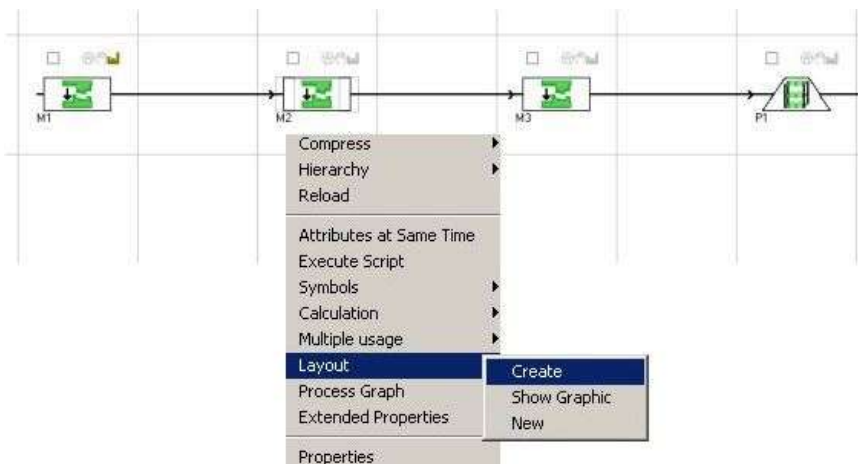

Figure 64: Start Create Layout via the Contextual Menu
- 1) In order to start the function **Create Layout**, click free space in the manufacturing concept. Then press the right mouse button and click **Create Layout** (Please refer to the Figure 64). The graphic icons are arranged if the message **A new layout was created** appears on your screen.
- 1) Click **Layout < New** in the contextual menu. *Please refer to the Figure 64.*